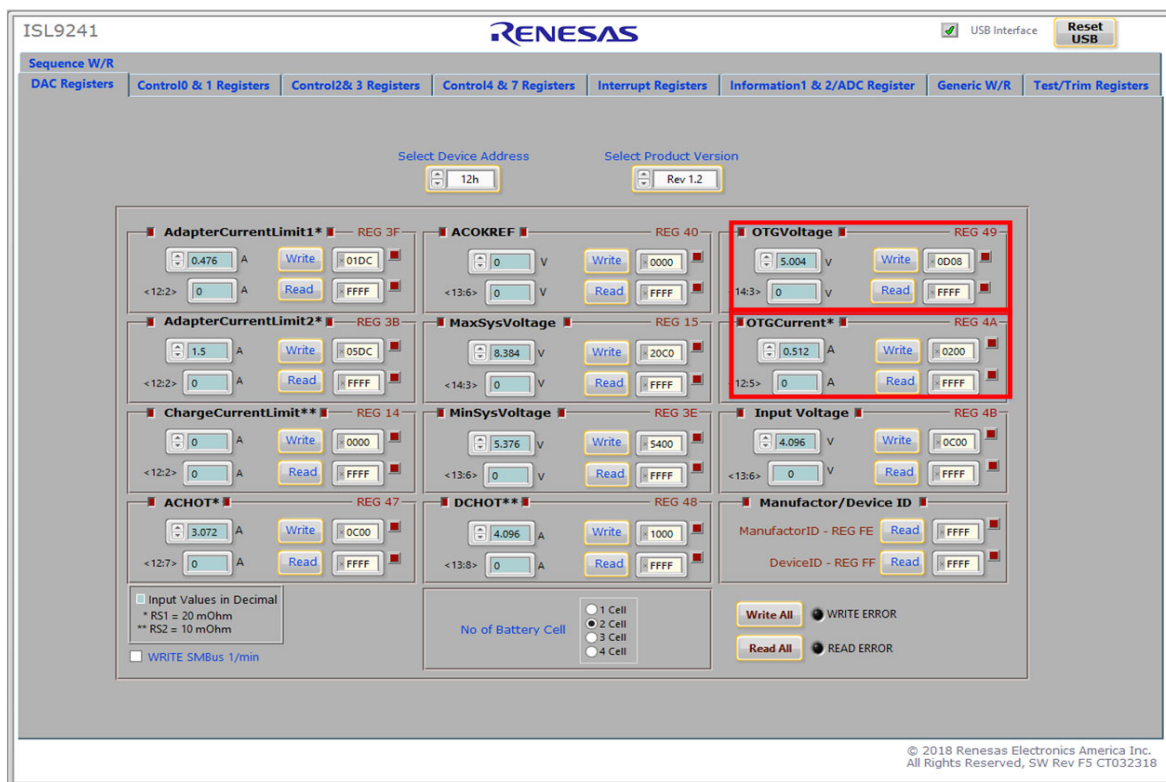

Figure 9. OTGVoltage and OTGCurrent Settings in GUI
4. Open the ISL9241 GUI. **OTGVoltage** is the voltage value for the load side, as shown in Figure 9, and **OTGCurrent** is the OTG output current limit at the load side. You can set these values as needed within the output limit range. See the ISL9241 datasheet for the limit ranges.